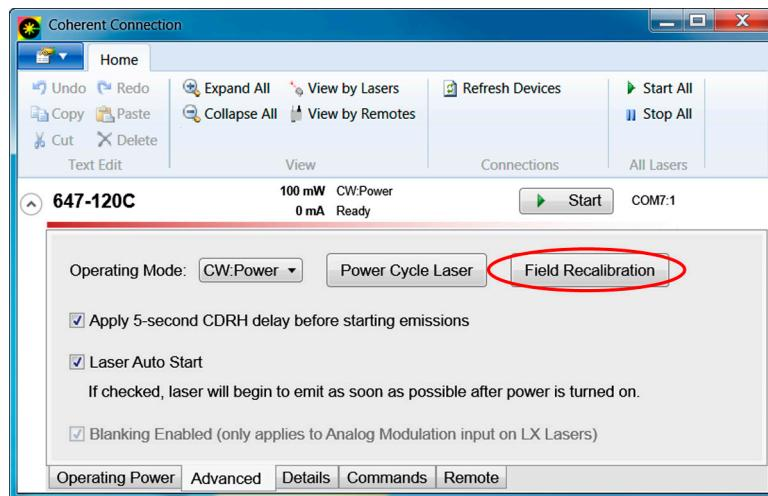

Figure 6-29. Advanced Tab – Field Calibration Command
1. On the Advanced tab, click the **Field Calibration** button shown in Figure 6-29 to start the recalibration process.